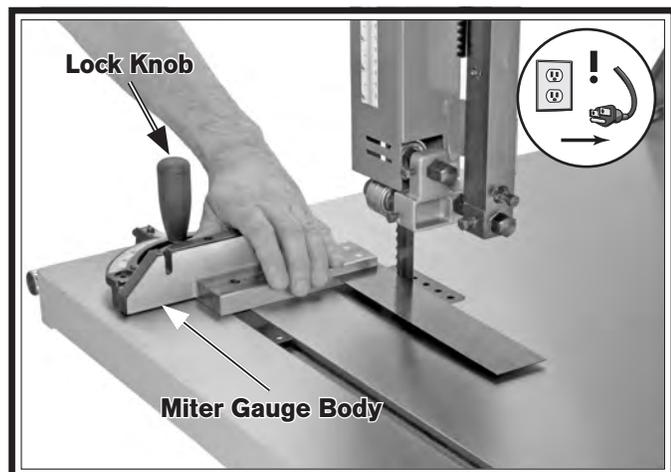

Figure 51. Example of squaring miter gauge to blade.
3. Place one edge of square against face of miter gauge and other edge of square against blade side, as shown in Figure 51.